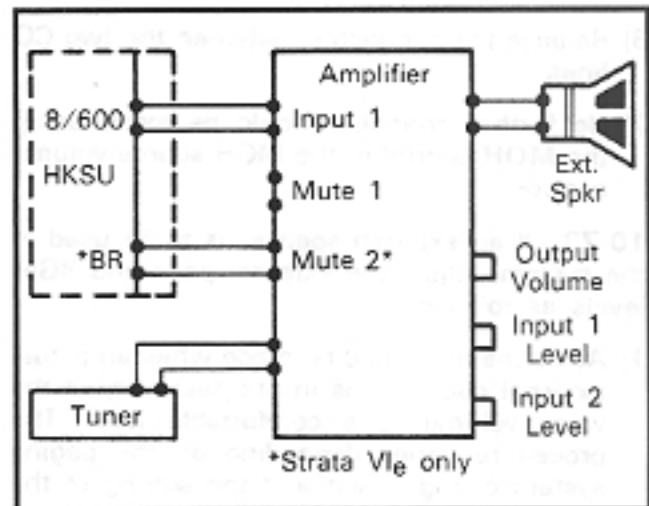

FIGURE 49—EXTERNAL AMPLIFIER HOOK-UP
10.66 To provide external BGM control, connect the BR terminals on the left side panel of the HKSU to the control terminals (mute, MIC switch, etc.) on the amplifier (see Figure 49).